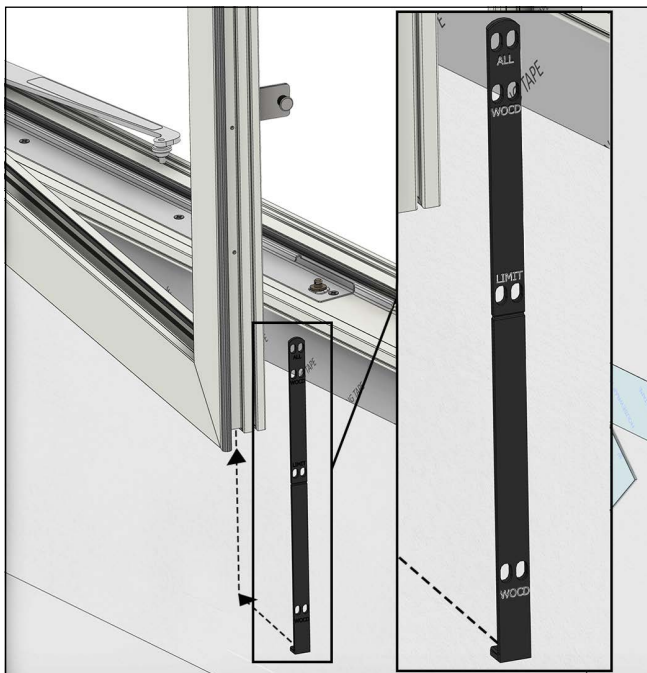

Figure 1
1. Place the supplied sash jig in the recess on the sash, the sash jig will also be used for marking and drilling the WOCD sash arm holes. See Figure 1.